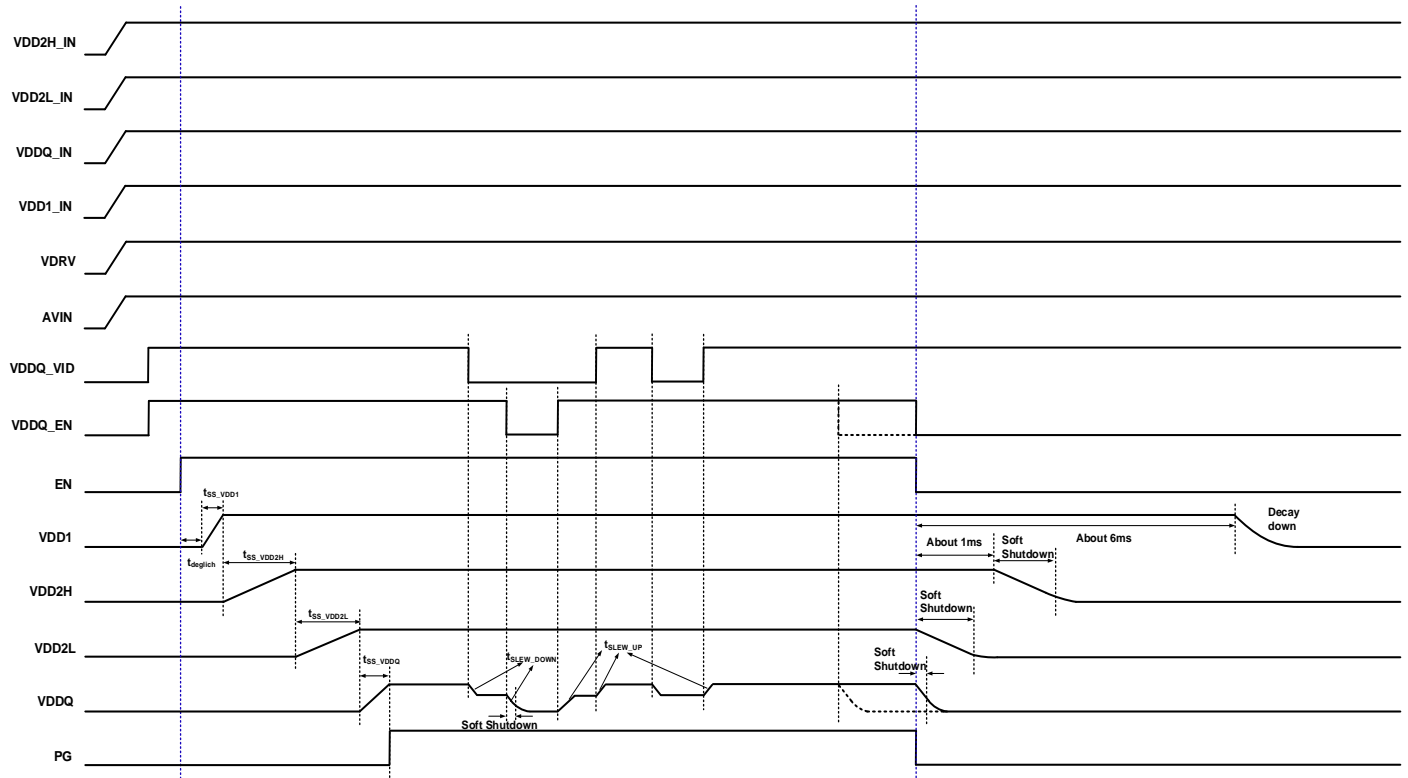

Figure 3. EN On/Off Output Sequencing
- 5) The soft-start and soft shutdown sequences are shown in Figure 3.